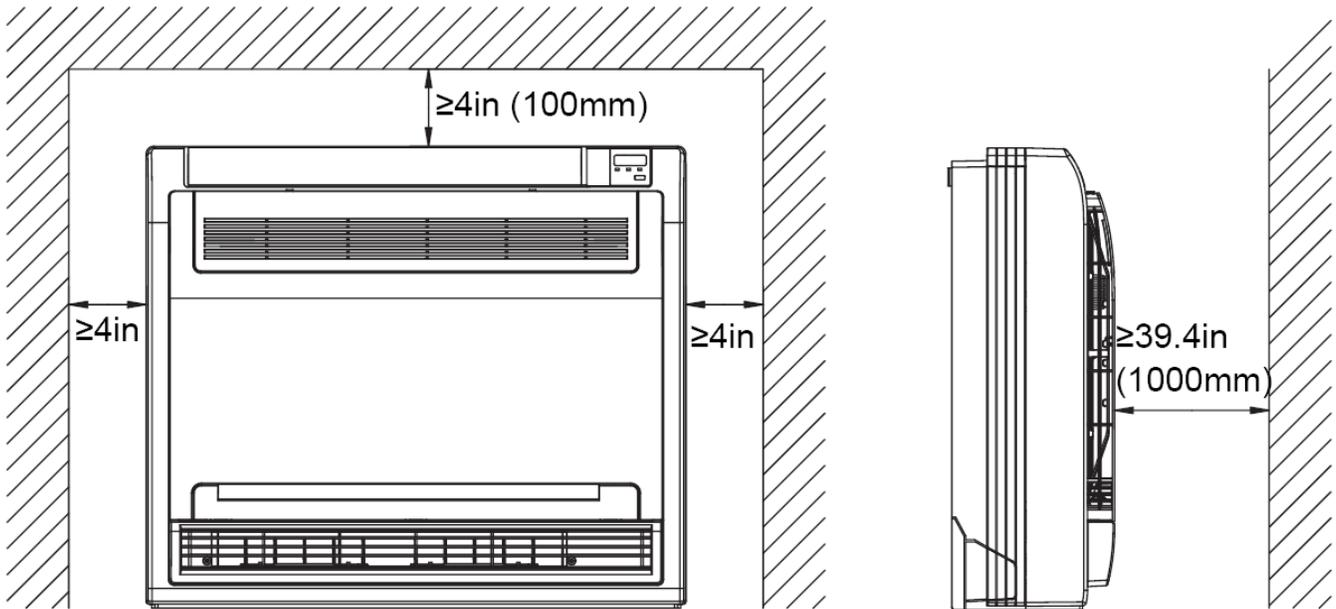

Fig. 25 – Floor Console Clearance
- A location which provides appropriate clearances (see Fig. 25 and Fig. 26).